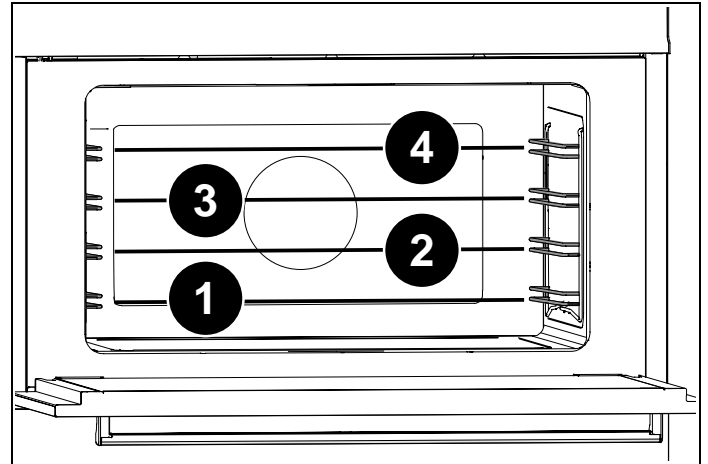

Fig. 26
- 4) Insert the spit support into the side runners at level 2 (Fig. 26). Put the food on the spit and place the entire assembly in the oven, engaging the tip of the spit with the shaft that protrudes at the rear of the oven.